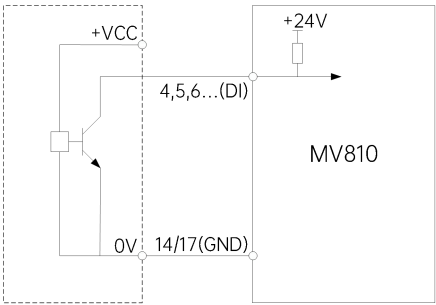

Fig. 4-17 Wiring diagram with the external controller being NPN
② When the external controller is the NPN common emitter output, the wiring is shown in Fig. 4-17.